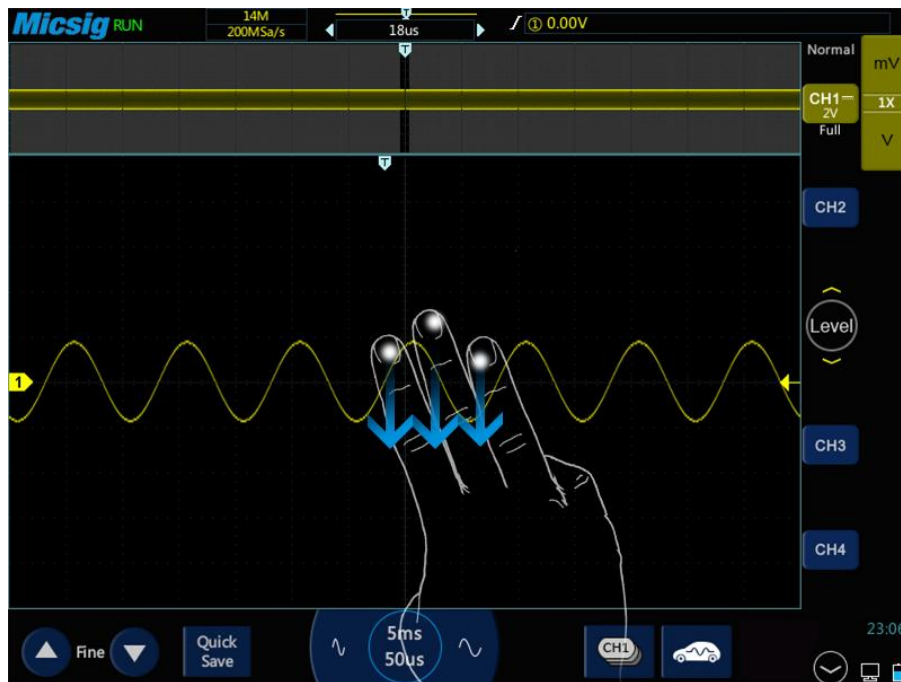

Figure 4-12 Open Zoom Function by Three Fingers Sliding Down
- 2) Put three fingers on the touch screen at the same time, slide down to open zoom mode; slide up to turn off zoom mode. Figure 4-12 shows the operation: